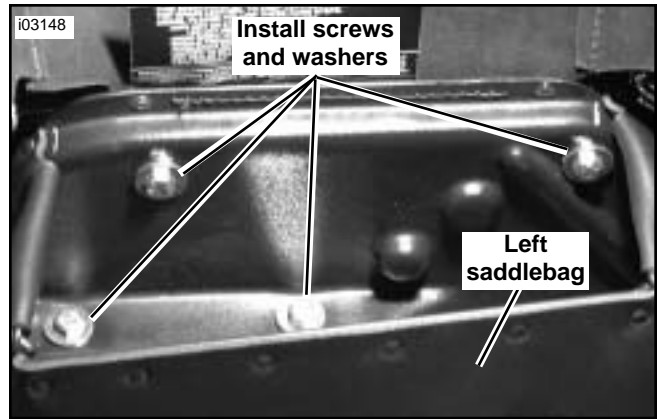

Figure 19. Install Left Saddlebag to Support Plate
1. See Figure 19. Align the saddlebag mounting slots, on the left saddlebag (Part Number 90405-00) from this kit, with the pressed-in nuts on the saddlebag-support plate. Align the two slots on the inside of the saddlebag with the vertical portion of the saddlebag plastic back, and two slots with the horizontal ledge.